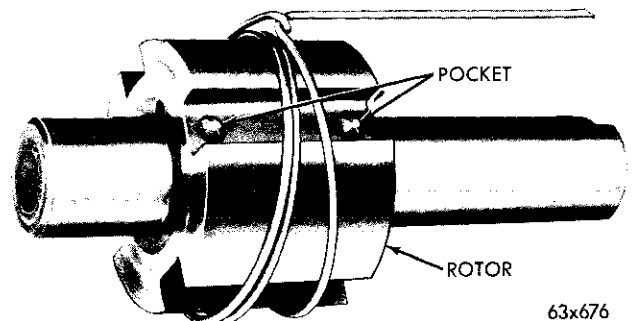

Fig. 14—Slipper Retainer Wire Tool Installed on Rotor
(11) Using a piece of soft steel wire 25 inches long, make three turns around the center of the rotor and fasten the wire, Fig. 14. Bend ends of wire toward pulley end of shaft. Do not make wire coils too tight or wire will be difficult to remove.